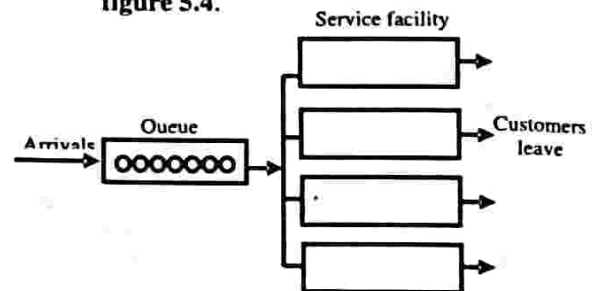

Figure 5.4: Multiple, Parallel Servers, Single Queue Model
- b) **Multiple Parallel Facilities with Single Queue:** In this service facility, there is more than one server. The term parallel means that each server provides the same type of services. Booking at a service station with the use of several machines and each machine handles one vehicle. It is shown in figure 5.4.